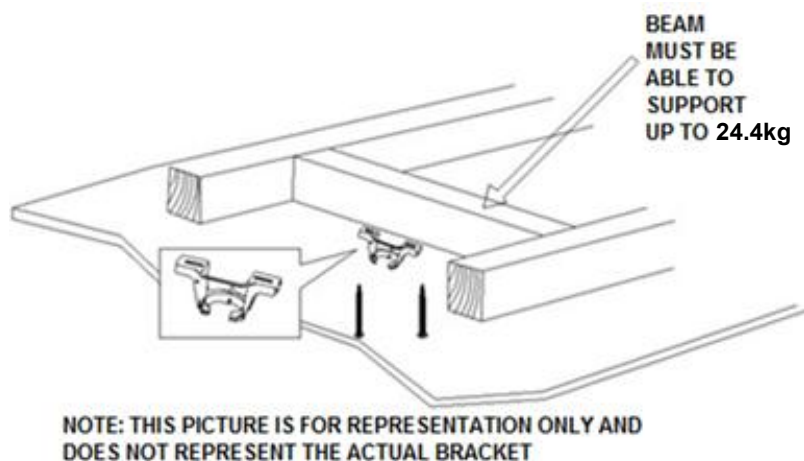

Fig. 2
- Install the hanging bracket to the ceiling joist or structure that is capable of carrying a load of at least 24.4kg, with two long screws provided. Ensure at least 30mm of the screw is threaded into the support. (Fig. 2)